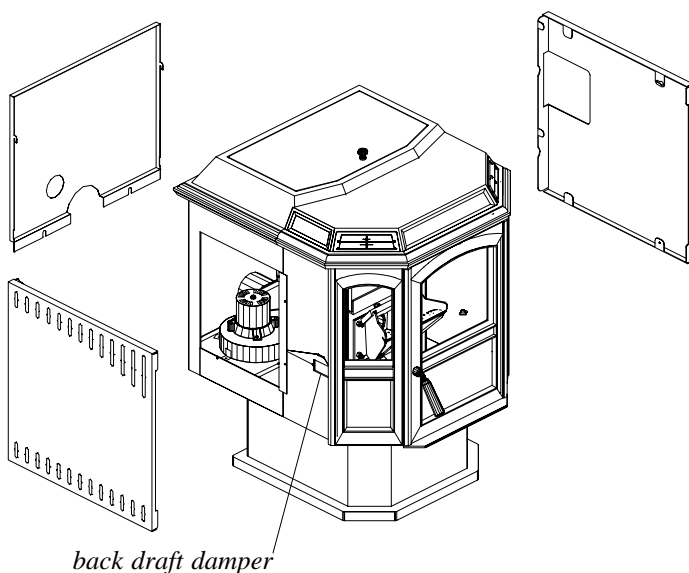

Fig. 15A
- * Remove side panels by pulling out on the lower front corner to unsnap the retainer snap. Next slide the panel to the rear which will disengage the other corners from their slots. The rear panel can be removed by loosening the two bolts at the bottom and lifting up and out of its slots. See fig. 15A.